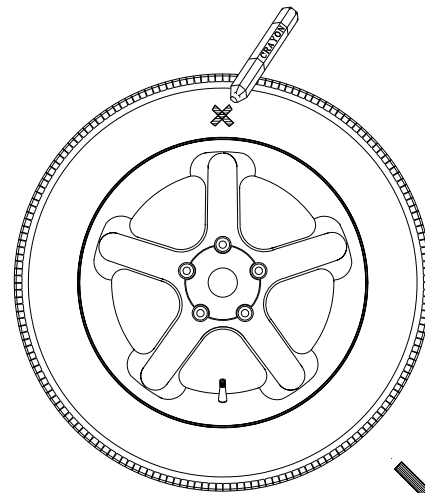

Figure 27 - Step 2, valve at bottom, mark top of tire with X, press "P"
(1) The operator should turn the wheel and mark an X at the 12 o'clock when the valve is at the 6 o'clock position. *Figure 27*